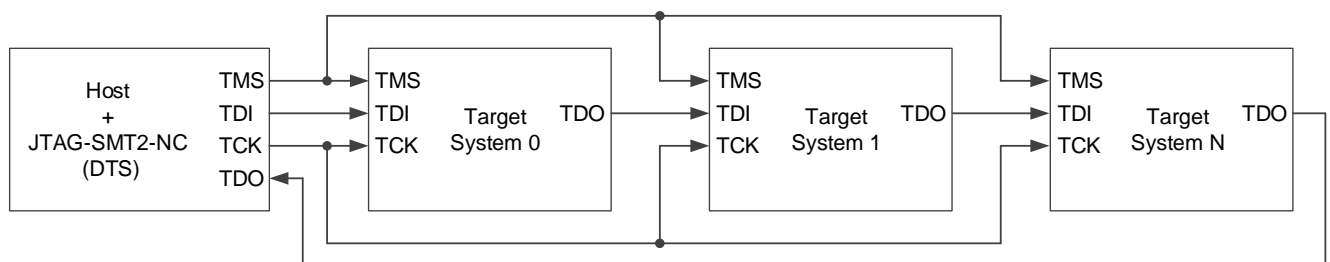

Figure 3. 4-Wire series topology.
The JTAG-SMT2-NC supports several scan formats, including the JScan0-JScan3, MScan, and OScan0 - OScan7. It is capable of communicating in 4-wire and 2-wire scan chains that consist of Class T0 – T4 JTAG Target Systems (TS) (see Figs. 3 & 4).